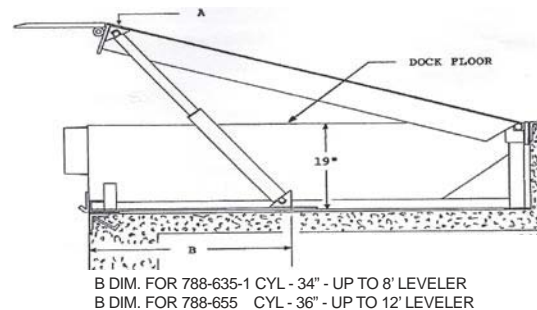
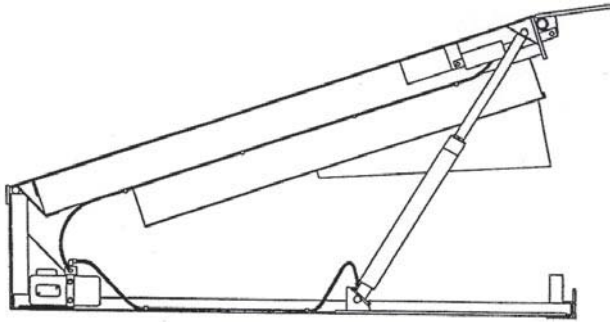

Figure 6
Figure 7
15) The main deck lift cylinder must be installed in the center of the frame and deck width, see Figures 7 and 8, for typical location. Upper mounting brackets to be mounted fully up against the underside of the deck plate and fully forward against the rear face of the headboard, as indicated as Item "A" in Figure 6.
Figure 6 is a side view illustration showing the correct mounting location dimensions of the deck lift cylinder.
16) As part of the conversion kit, the deck lift cylinder is pre-assembled onto its mounting brackets. Place the complete assembly into the pit. Position the 3/8" x 6" mounting plate and cylinder as shown in Figure 6, centered and squared to the front frame and tack-weld into position.
Figure 7 in a side view illustration of a completed conversion, showing typical locations of power pack, deck cylinder and lip extension cylinder.